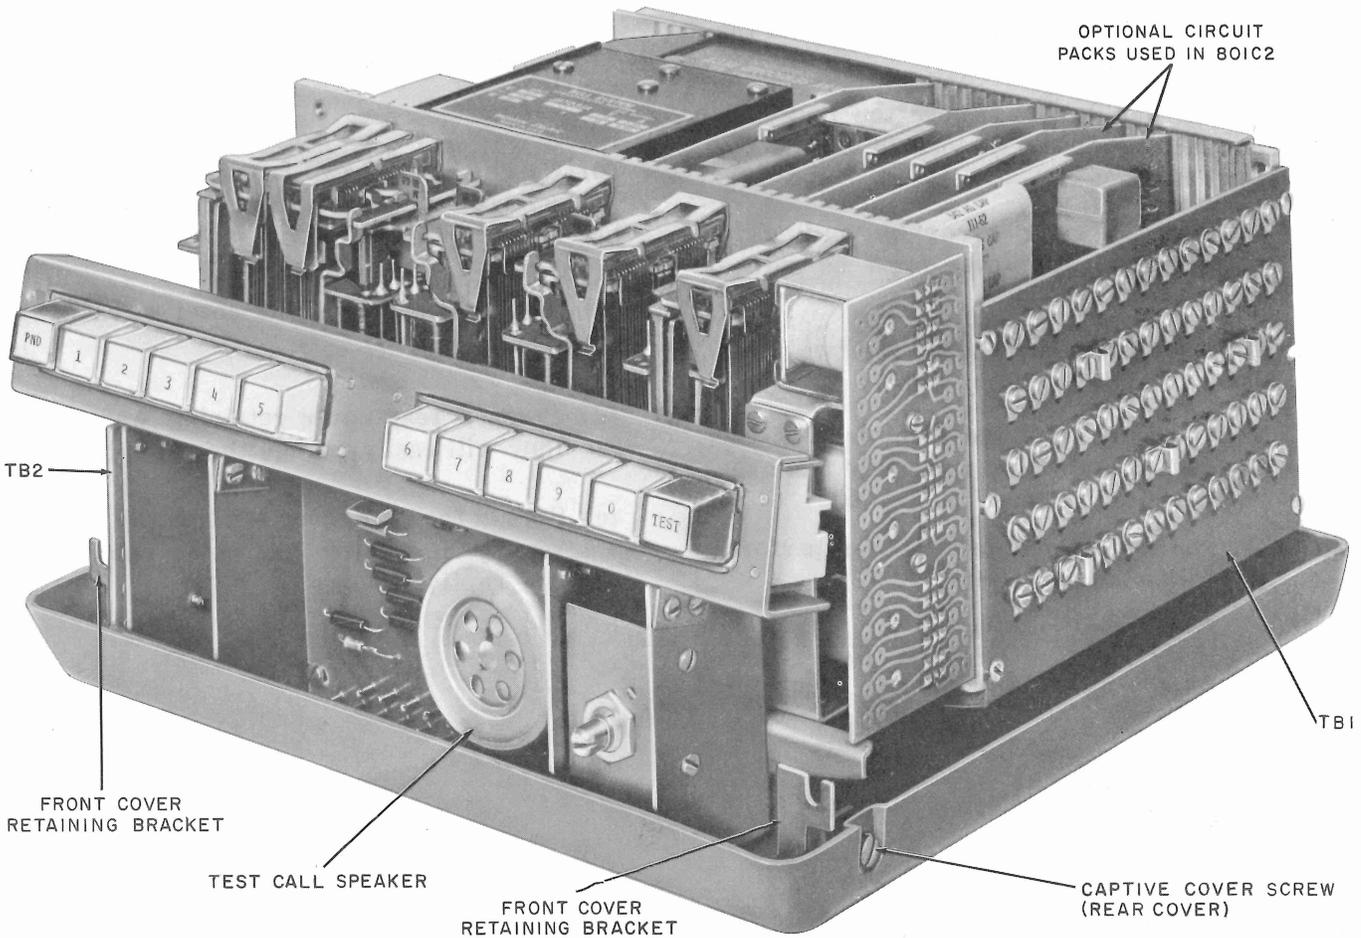

Fig. 2 — Data Auxiliary Sets 801C1 and 801C2 — Cover Removed
- (b) Check that the two front cover retaining screws engage the front cover retaining brackets properly (Fig. 2).
- (g) Check that cover catch brackets (Fig. 2) are properly engaged with the rear cover at the front of the unit.